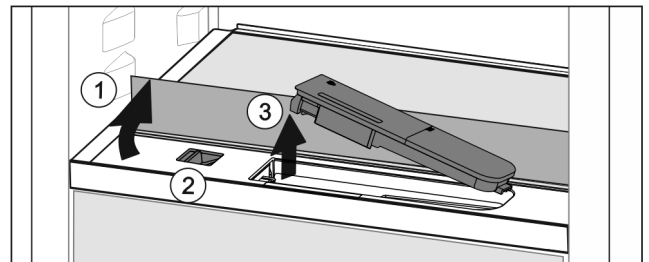

Fig. 41
- ▶ Lift the glass panel and fold to the back as far as it will go Fig. 41 (1).
- ▶ Slide the slider Fig. 41 (2) to the left.
- ▶ Remove the water tank Fig. 41 (3).